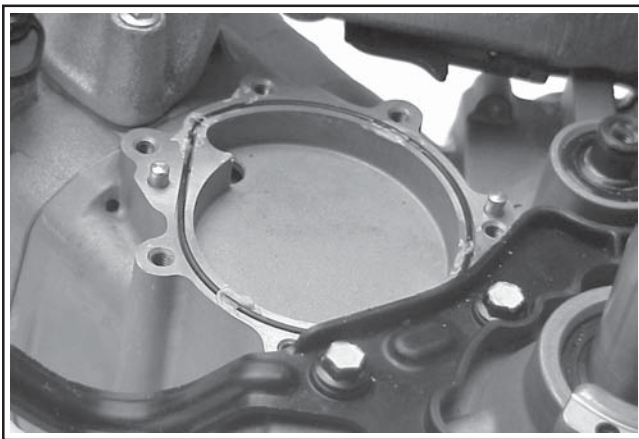

Figure 11-59. Installing O-Ring in Crankcase for Water Pump.
4. Place a new O-Ring in the groove of the crankcase, and apply a small amount of grease in several locations to hold it in place. See Figure 11-59. **DO NOT use RTV sealant in place of the O-Ring, or attempt to reinstall a used O-Ring.**